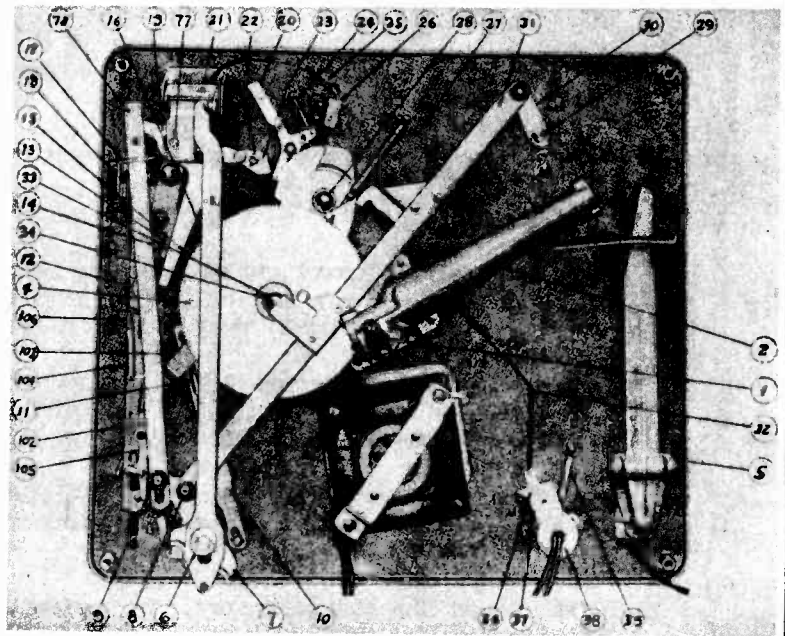
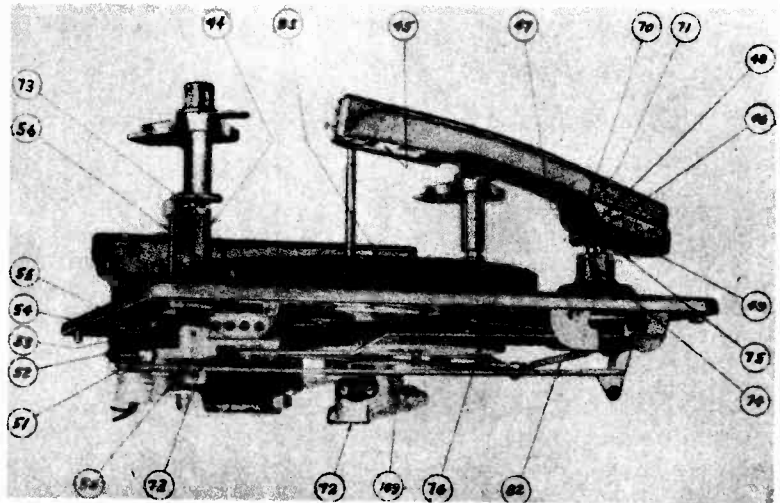
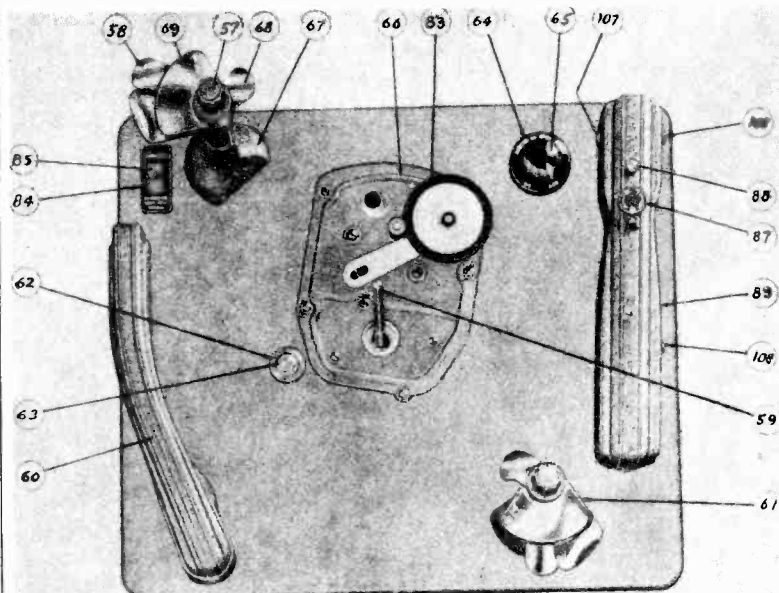

Fig. 1
Fig. 3
Fig. 4
1. Swing tone arm outward until tone arm lever assembly, (Item 19, Fig. 1) latches with tone arm latch lever, (Item 18, Fig. 1) which is held to tone arm shaft, (Item 77, Fig. 1) by two setscrews.
2. Make sure these setscrews are tight and that there is a slight play between the tone arm lever assembly and the panel, (Item 5, Fig. 1). This will give proper clearance at ball race assembly, (Item 74, Fig. 3).
The tone arm lever assembly, (Item 19, Fig. 1) is held against tone arm latch lever, (Item 18, Fig. 1) by the tension of tone arm locator lever spring, (Item 16, Fig. 1).
4. Now move tone arm, (Item 60, Fig. 4) until its outside edge is 1/8" from the outside edge of the panel (Item 5, Fig. 1) and retighten screw securely.
If the Record Changer does not go into its changing cycle when the needle has reached the above mentioned distance, the Tone Arm Trip Lever Shoe, (Item 23, Fig. 1), should be moved toward the outside edge of the panel. To do this, it is necessary to loosen the thumb nut, (Item 22, Fig. 1), and then retighten after adjustment has been made.
2. Check Trip Rod, (Item 32, Fig. 1), to make sure it releases Trip Lever Assembly, (Item 20, Fig. 1), from Engagement Clutch Cam Assembly, (Item 79, Fig. 2), when Switch Knob is being turned on. If Trip Lever Assembly is not released, Trip rod should be shortened by bending until Trip Lever clears Engagement Clutch Cam Assembly, when Switch Knob is turned.
3. Make sure that Clutch Reset Pawl, (Item 40, Fig. 2), clears Drive Link Assembly, Item 31, Fig. 1.
- (A) Trip Lever Assembly (Item 20, Fig. 1) does not latch in Engagement Clutch Cam Assembly (Item 79, Fig. 2), which may be due to causes listed below:
1. Trip Rod (Item 32, Fig. 1), may be bent so that it is too short, holding Trip Lever Assembly from contacting Engagement Clutch Cam Assembly.
2. Springs (Items 24 or 35, Fig. 1) may be disconnected.
1. Muting switch (Item 26, Fig. 1), may be out of adjustment. The contacts of this switch should be open whenever its long blade is not resting on the shoe of the Engagement Clutch Cam Assembly (Item 79, Fig. 2). If the contacts remain closed after the long blade has left the shoe, they should be adjusted by bending until there is a separation of approximately $1/32$ ".
4. Set Rod (Item 56, Fig. 3) is operated by Selector Arm (Item 61, Fig. 4). The 12" Set Link (Item 10, Fig. 1) operates as a stop when Record Changer is set for 12" records. When Tone Arm Locator Assembly (Item 12, Fig. 1) contacts 12" Set Link the Tone Arm should be in the correct position to play a 12" record.
If at this point, the position of Tone Arm is incorrect, loosen the screw which holds the Tone Arm Locator Shoe 12" (Item 14, Fig. 1) and move in either direction as required and tighten screw.
3. Note where needle contacts record. Correct contacting is about 1/8" from the outside edge of record. If contacting of needle is not correct as mentioned, loosen the screw which holds Tone Arm Locator Shoe 10" (Item 15, Fig. 1) and slide shoe in or out as required, then tighten screw.
Set the Record Changer for ten-inch records, turn Switch to "ON" and allow Record Changer to go thru a changing cycle with no record on the Turntable. The clearance between Turntable and the bottom surface of the Tone Arm should be approximately 1/8". Usually this clearance can be obtained by adjusting the Tone Arm Adjustment Screw (Item 70, Fig. 3). It is well to check the following points before making any adjustment.
Check clearance between Roller (Item 51, Fig. 3) and Selector Crank Shaft Assembly (Item 7, Fig. 1). There should be approximately 1/32" clearance at this point. If the clearance is greater, it would be due to the pressure on the Spring Washer (Item 50, Fig. 3) being too great. This will prevent the Tone Arm Lifter Reset Spring (Item 82, Fig. 3) from returning the Tone Arm Lifter Link Assembly (Item 81, Fig. 2) sufficiently. To relieve the pressure on the Spring Washer, lower the Selector Shaft Collar (Item 6, Fig. 1) slightly.
If the Tone Arm lowers too suddenly, the Spring Washer (Item 50, Fig. 3) which is located between the Tone Arm Lifter Link Assembly (Item 81, Fig. 2) and Selector Shaft Crank Assembly Post (Item 7, Fig. 1) is not under sufficient pressure. The setscrews in the Selector Shaft Collar (Item 6, Fig. 1) should be loosened and the Selector Shaft Collar pressed upward slightly and set screws tightened.
When Manual Control Button (Item 84, Fig. 4) is moved to the Manual Play-Back recording position, it moves the Manual Control Slide (Item 102, Fig. 1) which in turn moves Clutch Lock Slide (Item 103, Fig. 1) into a position which prevents Engagement Clutch Cam Assembly (Item 79, Fig. 2) from rotating. When Engagement Clutch Cam Assembly is in the above mentioned position and is not free to rotate, the Changer will not go into its changing cycle.
Also when the Manual Control Button is in the above mentioned position, the Manual Control Slide has moved the Locator Lock Slide (Item 106, Fig. 1) into a position where it engages the Tone Arm Locator & Bushing Assembly (Item 12, Fig. 1) and prevents same from bearing against Tone Arm Lever Assembly (Item 19, Fig. 1) allowing the Tone Arm to swing freely without hindrance and without setting Changer into its changing cycle. When the Manual Control button is in the automatic position the Changer will function normally as an automatic record changer.
- (A) Threads from record cuttings getting down onto Rubber Idler drive wheel (Item 83, Fig. 4) and between drive wheel and motor pulley. This will cause very bad speed variation of the turntable and, of course, will result in very inferior recording. Cuttings may also wrap around motor shaft and cause motor to slow down or stop.
(C) Damaged Rubber Idler Drive Wheel (Item 83, Fig. 4)
Bent or Damaged Turntable Spindle: If the Turntable Spindle (Item 59, Fig. 4) has been bent in shipment, or by someone exerting a heavy pressure on one side, it should be replaced with a new one. A bent Turntable Spindle will cause the surface of the Turntable to move up and down while it is turning and, of course, will seriously effect the quality of both recording and play-back.
- (G) **Record Cuttings Causing A Bind Between Turntable Spindle (Item 59, Fig. 4) and Its Bearing:**
- (H) **Tension On Rubber Idler Drive Wheel (Item 83, Fig. 4) Too Great:** If the tension on the Rubber Idler Drive Wheel is too great, this will result in a "wow" or a rumble in the recording. To decrease the tension on Rubber Idler Drive Wheel, loosen the screw holding the lug which is located beneath the Rubber Idler Drive Wheel and turn it slightly in a clockwise direction. This will reduce the spring tension on the Rubber Idler Drive Wheel. When the spring tension is correct, the spring will be approximately at right angles to the lug.
- (I) **Tension On Rubber Idler Drive Wheel (Item 83, Fig. 4) Too Weak:** This will cause very bad speed variation. Turntable will slow down and then speed up as audio current of varying intensity reaches the cutter cartridge.